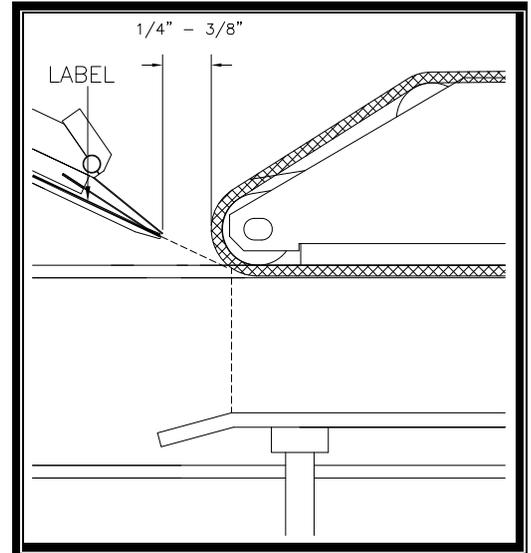

Figure 23- PRESSURE BAR POSITION
3. Place a product at each end of the wrap belt. Refer to Figure 23.